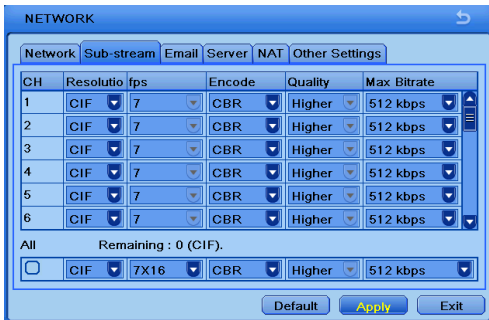

Fig 4-25 Network Configuration-Sub Stream
- ① Go to Main Menu → Setup → Network → Sub Stream interface. Refer to Fig 4-25.